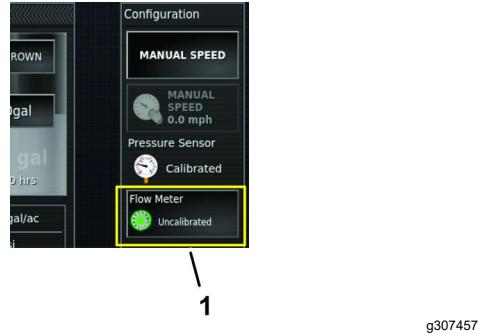

Figure 168
4. Press the FLOW METER icon (Figure 168).